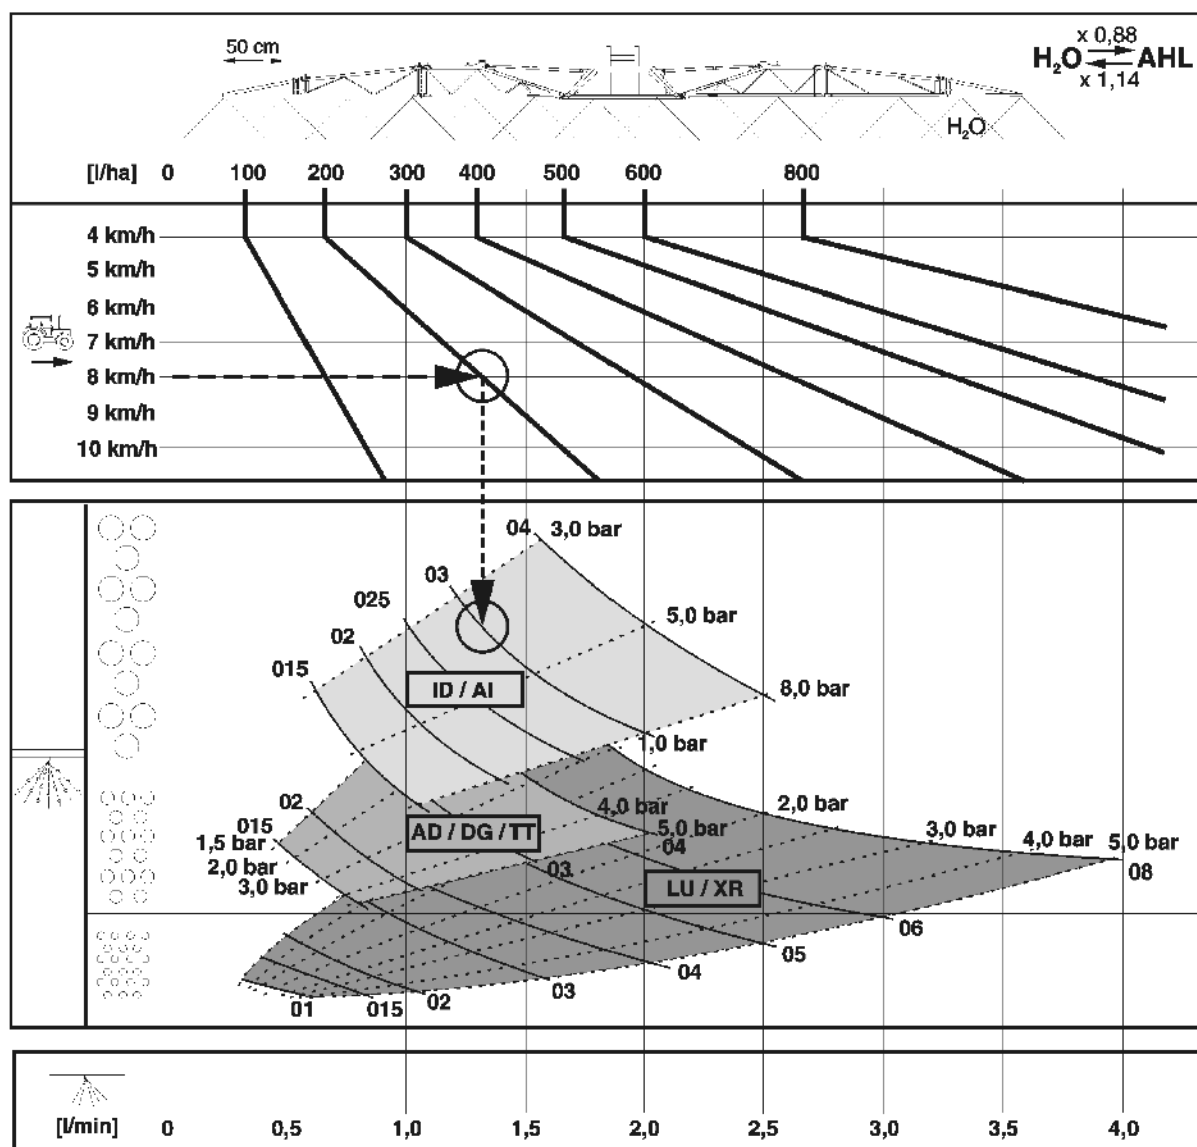

Fig. 179
- Fig. 179 helps with the selection of the right nozzle type. The nozzle type is determined by